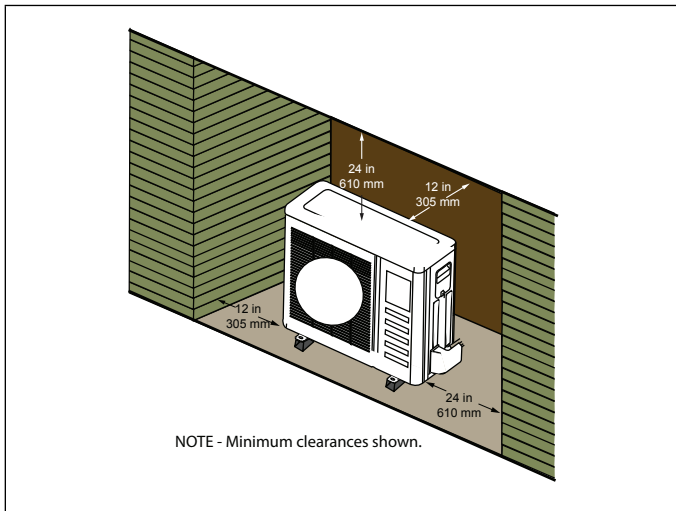

Figure 25. Unit installed in Alcove
- a roof overhang as illustrated in “Figure 25. Unit installed in Alcove”